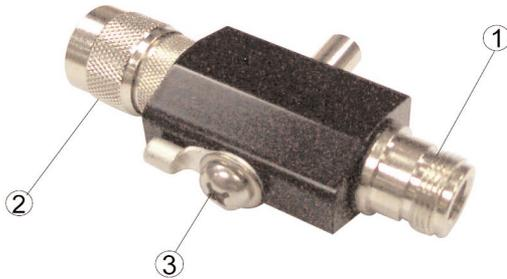

Figure 3-5. The surge arrester's connections.
1. Connect one end of the surge arrester (#1 in Figure 3-5) to the antenna.